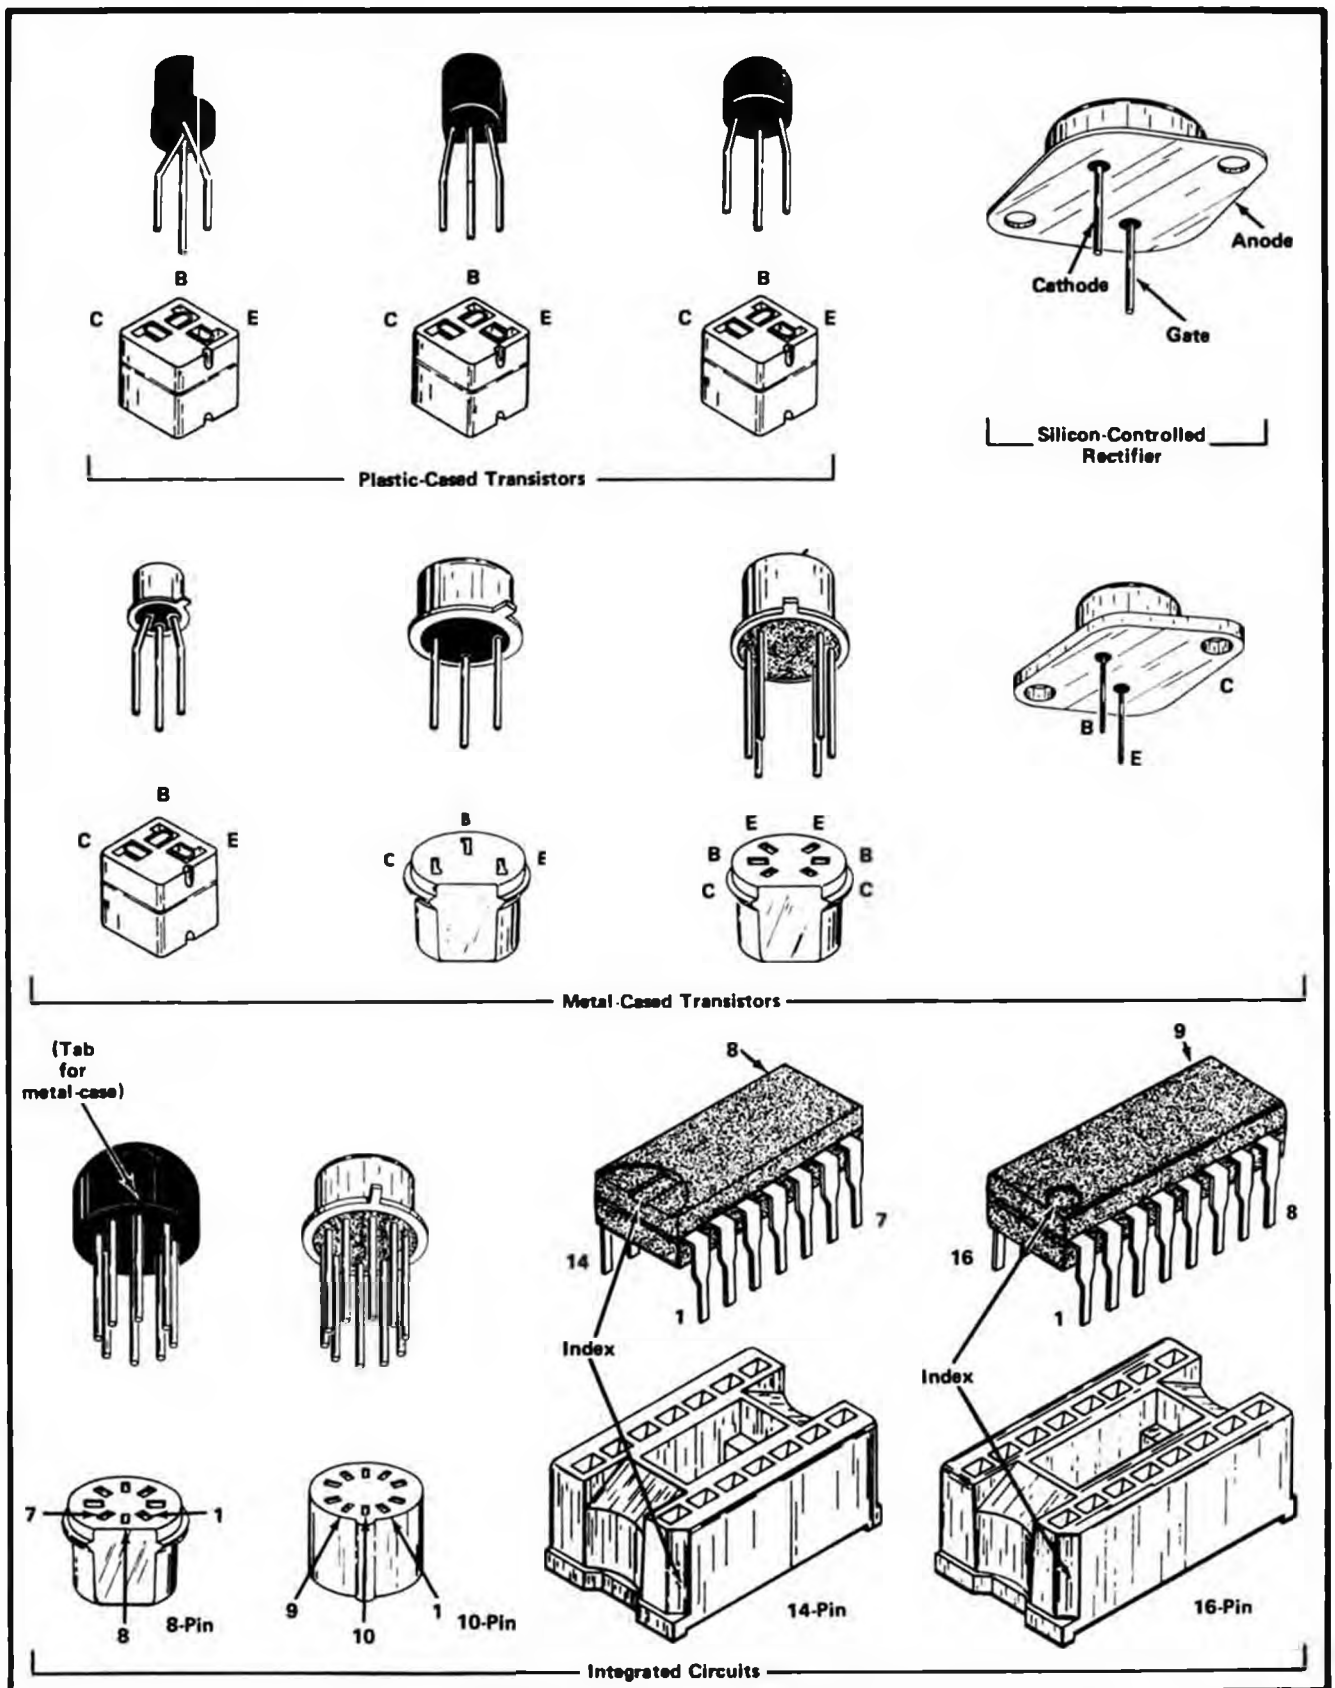

Fig. 4-3. Electrode configuration for semiconductors in this instrument.
**Semiconductor Lead Configuration.** Fig. 4-3 shows the lead configuration for the semiconductors used in this instrument. This view is as seen from the bottom of the semiconductors.